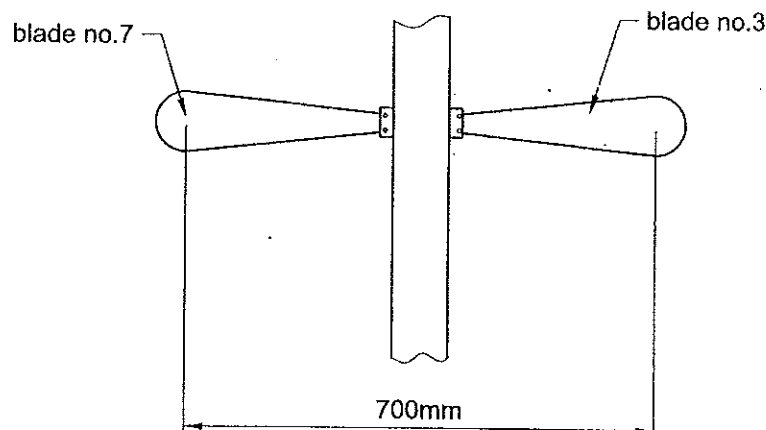

Fig.Q1-B
A company which produces food items like fruit juice, jam, cordials, etc. intends to expand its production. In the process of expansion, the company needs a high capacity/heavy duty blender, which can be used to mix and blend fruit slices in order to make fruit pulps. These fruit pulps can be used in the production of juice and also can be stored for future use. The Fig.Q1 shows the layout of the proposed blender. The blender consists of a mixing chamber that meets the capacity requirement and has a vertical rotating shaft to which blades are fixed for the purpose of blending action.
1. The Fig.Q1-B shows the important dimensions of the blades.
A single blade is applied by fluid pressure of 8 *KN/m²* when the container is filled with food slices to its maximum level, and this amount of pressure is applied to the projected area of the blade, which is 250 *cm²*. The distance between the centres of gravity of blade 3 and blade 7 is 700 *mm* as shown in the Fig.Q1-B. All blades are identical and for calculation of rotational inertia it can be considered that the radius of gyration of each blade is 350 *mm* from the axis of rotation.